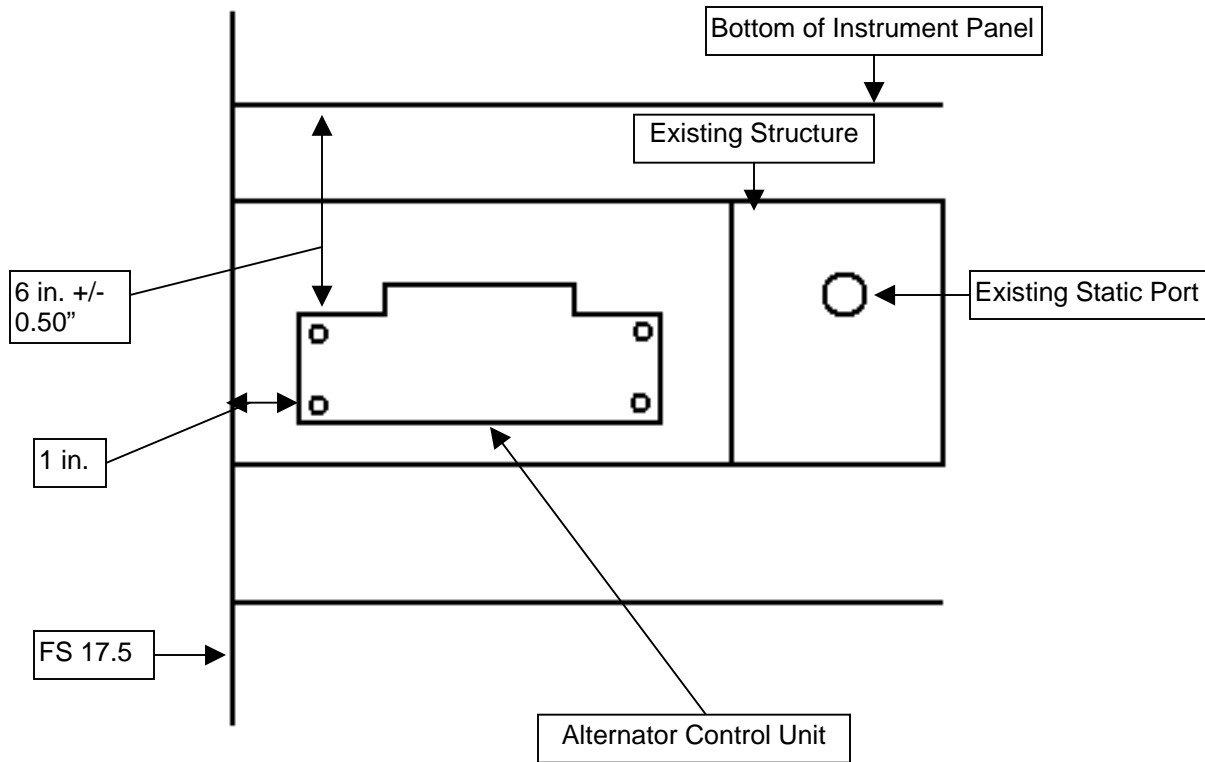

Figure 6
4. Install the BC203-2D Alternator Controller on the LH side of the fuselage aft of the firewall using 4ea. 8-32 screws, 4ea. MS21042-08 nuts and 4ea. AN960-8 washers. Reference Figure 6 and Illustration VI for the location and installation orientation of the Controller/Regulator. The Alternator Controller is mounted 6in (+/- 1/2in) from the bottom of the instrument panel and 1in (+/- 1/4in) forward of FS 17.5.